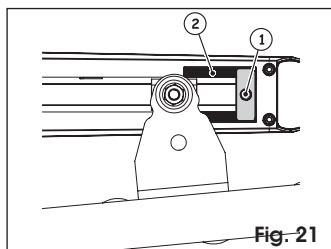

Fig. 21
3. Loosen the securing screw, figure 21 ref. ①. The screw does not need to be completely removed.
**The mechanical stop is coupled to a toothed sector, figure 21 ref. ②. In the case of obstructions during movement, check that the coupling is free. DO NOT USE FORCE.**